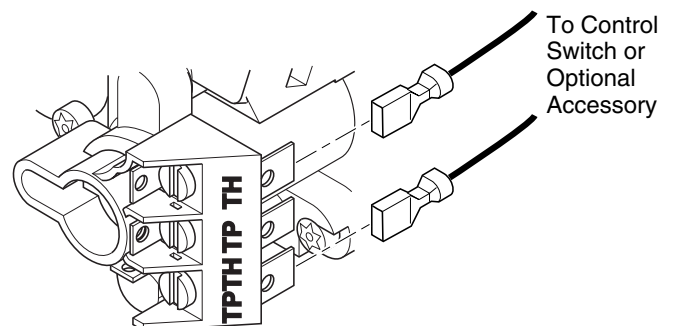

Figure 45 - Control Valve Terminals
1. Connect one terminal of 25 ft. wire for the wall switch to the TPTH terminal on the valve. Connect remaining wire terminal to the TH terminal on the valve. Make sure that the wire terminals are in the positions on the unit as pictured in Figure 45. If wires are not connected as shown the switch will not work.
3. Connect one terminal of the wire for the wall thermostat to the THTP terminal on the valve. Connect remaining wire terminal to the TH terminal on the valve. Make sure that the wire terminals are in the positions as pictured in Figure 45, page 22. If wires are not connected as shown the thermostat will not work.
2. Disconnect wires from THTP and TH on control valve that lead to the switch (see Figure 45, page 22). Discard switch plate, screws, and nuts.
- Connect the wires from the receiver to the valve at TH and THTP (see Figure 45, page 22).